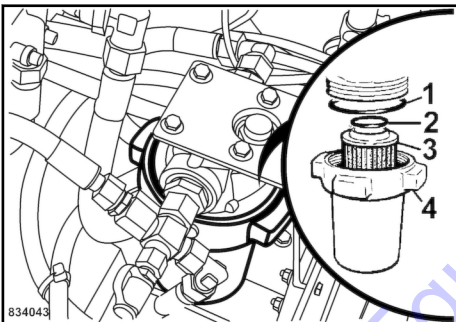

Fig. 158
1. Remove filter bowl (4) ↪ Fig. 158 with filter element (3).
4. Reassemble the filter bowl with a new filter element and new loop rings (1) and (2).